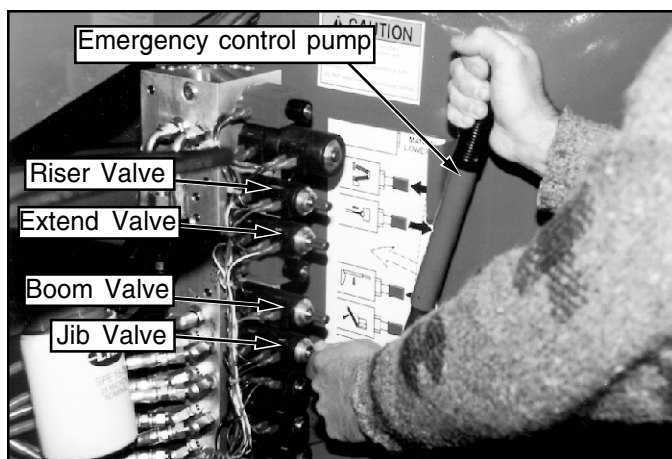

Figure 4: Emergency Control Operation
3. Operate the manual override (knurled knob) on the appropriate valve (see figure 4). Push in to lower / extend, pull out to raise / retract as required.